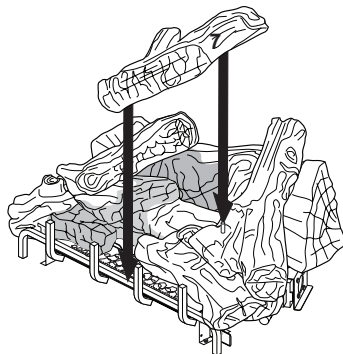

Figure 28 - Installing Log #7
7. Place center crossover log (#7) onto pin on log #5 and resting on grate as shown in Figure 28. Log #7 must overlap grate and rest against grate finger. Log must not rest on burner.